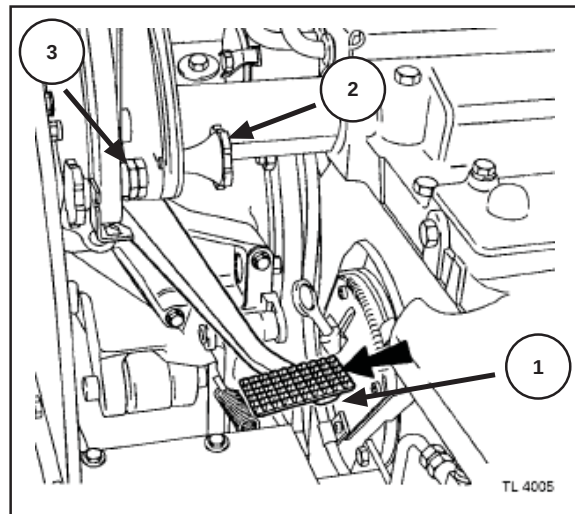

Fig.103
1. Ensure that the pedal (1, Fig.103) operates freely throughout its complete travel.
2. Turn back the rubber seal (2) covering the actuator fork lock-nut.
4. Unscrew the fork (3) so that the foot pedal casting just contacts the mounting bracket at the position indicated by arrow.